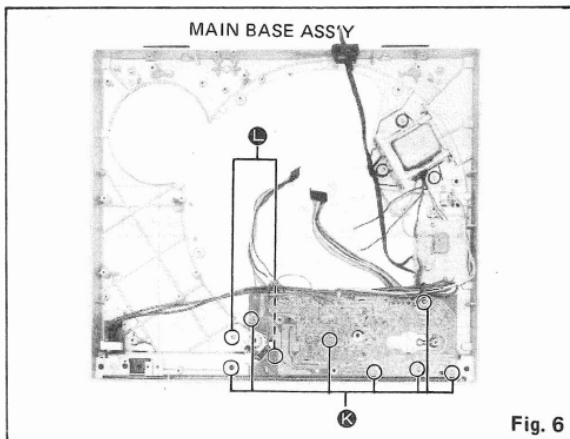

Fig. 6
14. Remove 7 screws **K** of the control circuit board ass'y as shown in fig. 6.
15. Remove 2 screws **L** of the stylus-illuminator lamp ass'y as shown in fig. 6.